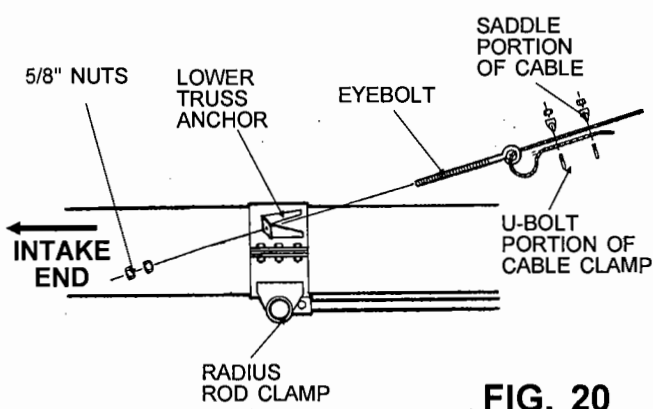
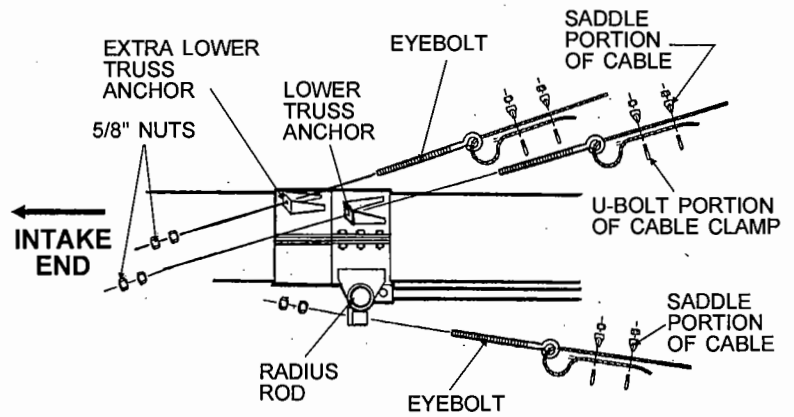

FIG. 20
FIG. 21
- Step 4. Fasten radius rod clamp to the auger tube using a halfband and six 3/8" x 1 1/2" long hex head capscrews with nylon locknuts. On 42', 52', 62' and 72' the heavy duty halfband will have truss anchors welded to it; the truss anchors must be positioned as shown on Fig. 20 and Fig. 21 on page 26.
- Step 5. On 72' models bolt another lower cable truss to the auger tube just below the radius rod clamp. Use a heavy duty halfband and six 3/8" x 1 1/2" long (grade 5) hex head capscrews with nylon locknuts to secure lower truss anchor to auger tube. See Fig. 21 on page 26.
Step 11. Install the eyebolts into the lower truss anchor with the eye of the bolts pointing towards the discharge end of the auger. Install two nuts on each eyebolt. The 42', 52' and 62' models use two eyebolts. See Fig. 20. The 72' models use four eyebolts. See Fig. 21.
- Step 15. Attach truss cables to eyebolts using two cable clamps per each cable. **NOTE:** Secure the clamp u-bolt against loose end of cable. See Fig. 20. on page 26 for 42', 52' & 62' models. See Fig. 21 on page 26 for 72' models.
Attach the 31'-0" long cables to eyebolts using two cable clamps per each cable. **NOTE:** Secure the clamp u-bolt against loose end of cable. See Fig. 21 on page 26. Using eyebolts tighten cables to remove slack until the cables are reasonably snug. Tighten cables equally. **DO NOT OVERTIGHTEN.** Sight down the tube to make sure all sections are straight. Some adjustments can be made after auger is completely set up. Tighten the 3/8" cable clamps or 3/8" u-bolts holding the cable to the truss sides.